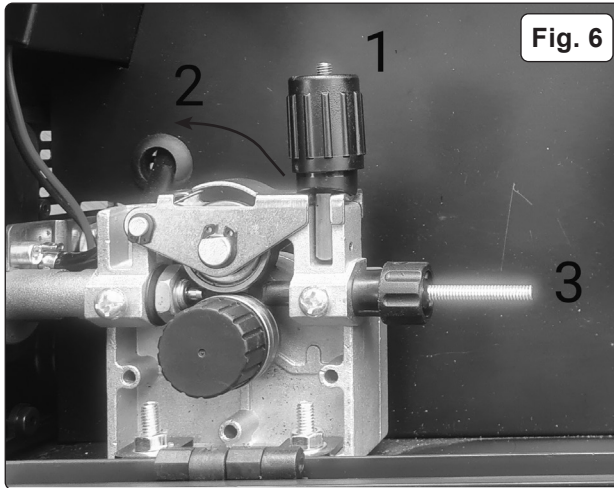

Fig. 6
- 5.3.1. Open the wire feed mechanism by pushing the locking/wire tension knob (1) down to the right allowing the pressure roller carrier (2) to spring up revealing the feed roller as shown in Fig.6. Ensure that the required feed groove (0.6 0.8) is in line with the wire path. See Section 5.6 on how to reverse or change the roller.
- 5.3.3. Straighten about 40-50mm of wire and gently push it through the flexible metal sheathed cable, Fig.6 (3) and through the 6 or 8mm feed roller groove and on into the torch cable liner.
5.6.2. Referring to Fig.6, open the wire feed mechanism by pushing the locking/wire tension knob (1) down to the right allowing the pressure roller carrier (2) to spring up revealing the feed roller.